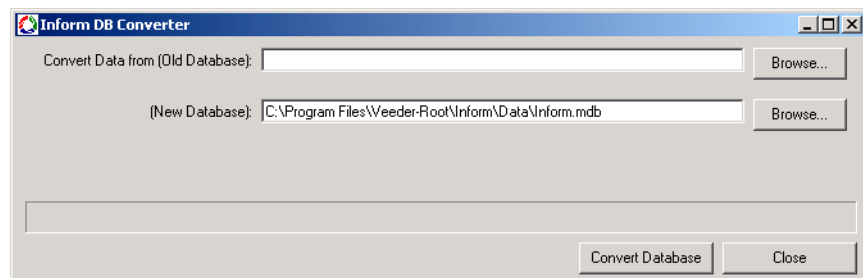

Figure 2. InformDB Converter dialog box
2. The Inform Database Converter dialog box appears (see Figure 2).